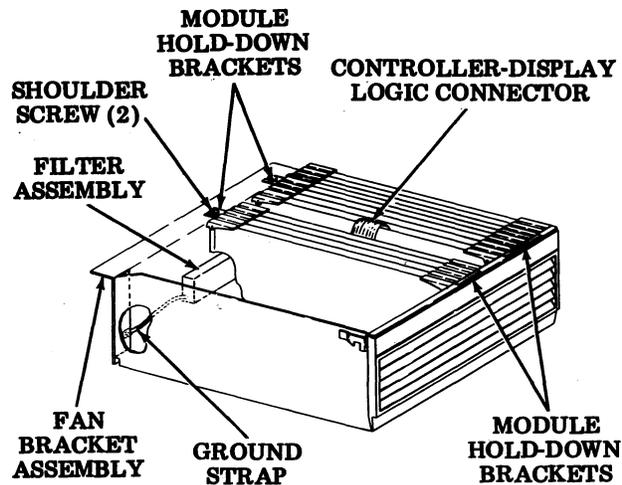

Fig. 26—Electronics Package (Removed From Cabinet)
4.69 Disconnect the ground strap from the electronics package by removing the lower left-hand screw from the rear of the electronics package. This screw is one of four that also hold the fan bracket assembly to the electronics package (Fig. 26).
4.70 Remove the fan bracket assembly by removing the remaining three screws from the other corners of the back of the electronics package and pulling the fan assembly straight back to disengage the shoulder screws on the top of the fan assembly from the modules (Fig. 26).
4.71 Unplug the connector from the top of the circuit card in position X06 of the display logic (Fig. 26).
4.73 Remove the screws on the left and right side of the filter assembly cover (Fig. 26), attached to the rear of the controller module. The screw on the left side attaches the ground strap to the filter assembly cover. Remove the metal strip from the sides and bottom filter assembly.